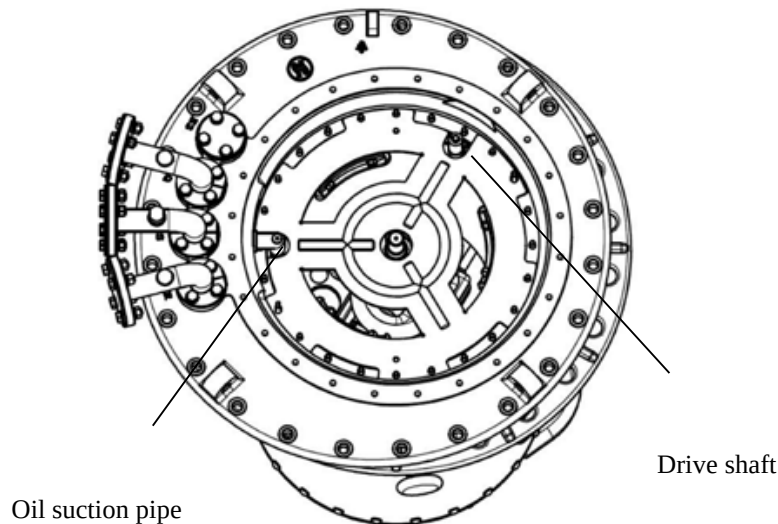

Figure 32 Install switch insert
- 4) Lift the switch insert to be above the oil compartment, and slowly drop the insert to its final position. Make sure that the insert mounting plate in the compartment is in the correct position (switch insert's top plate has two gaps which is 120° away. These two gaps, one is aligned with the oil suction pipe and the other is aligned with the drive shaft used to install the position indicating disc). Fasten the support plate: 10 pieces of M8 nuts (13mm wrench with spring washer, torque 12 to 15 N.m.) (Figure 32).